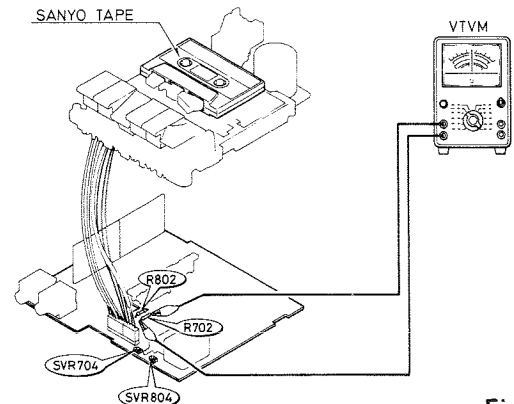

Fig. 20
4. Obtain the voltages listed below for the corresponding marks, adjusting SVR704 and SVR804. (Fig. 20)